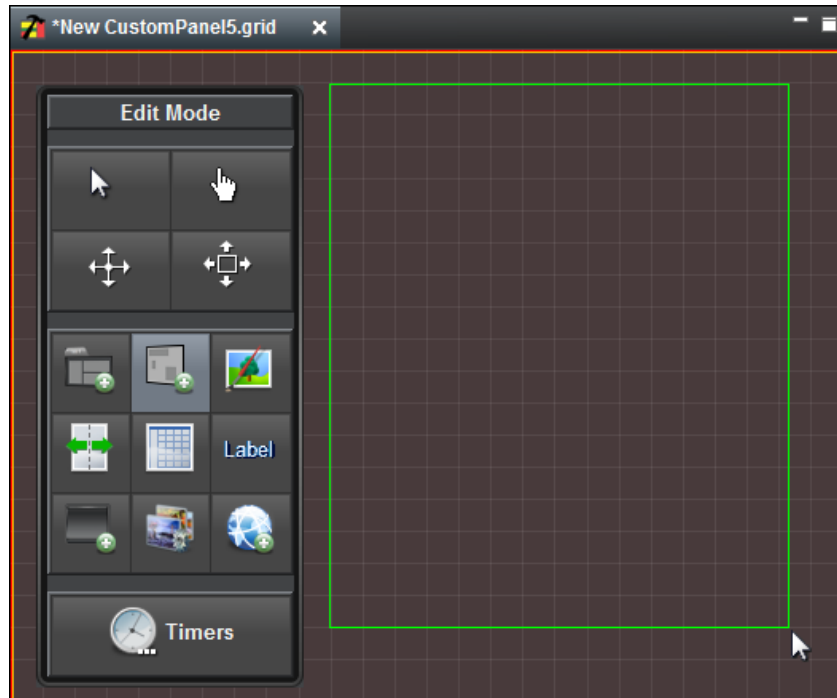

Figure 5.13 - Adding a Blank Canvas (with **Insert blank canvas** button selected, dragging to define canvas area)
2. Drag a box on the panel to define the canvas area (**Figure 5.13**).